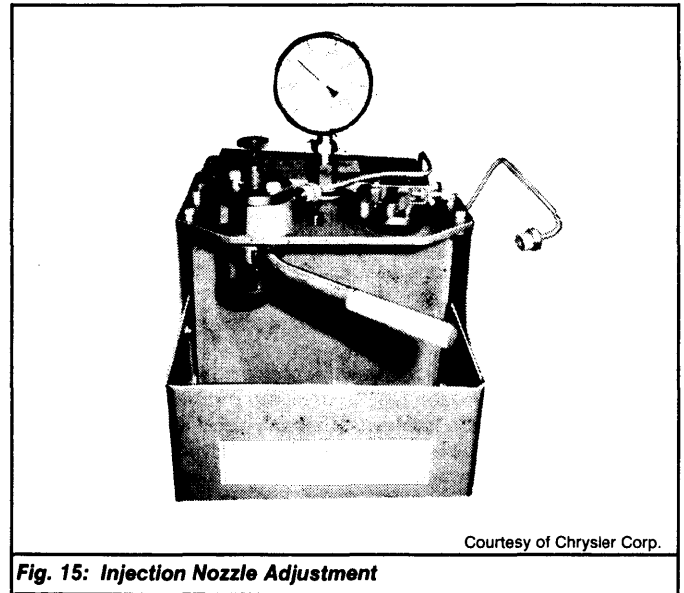

Fig. 15: Injection Nozzle Adjustment
1) Install nozzle holder and tip on nozzle tester. See Fig. 15. Operate tester handle several times to bleed nozzle and line.